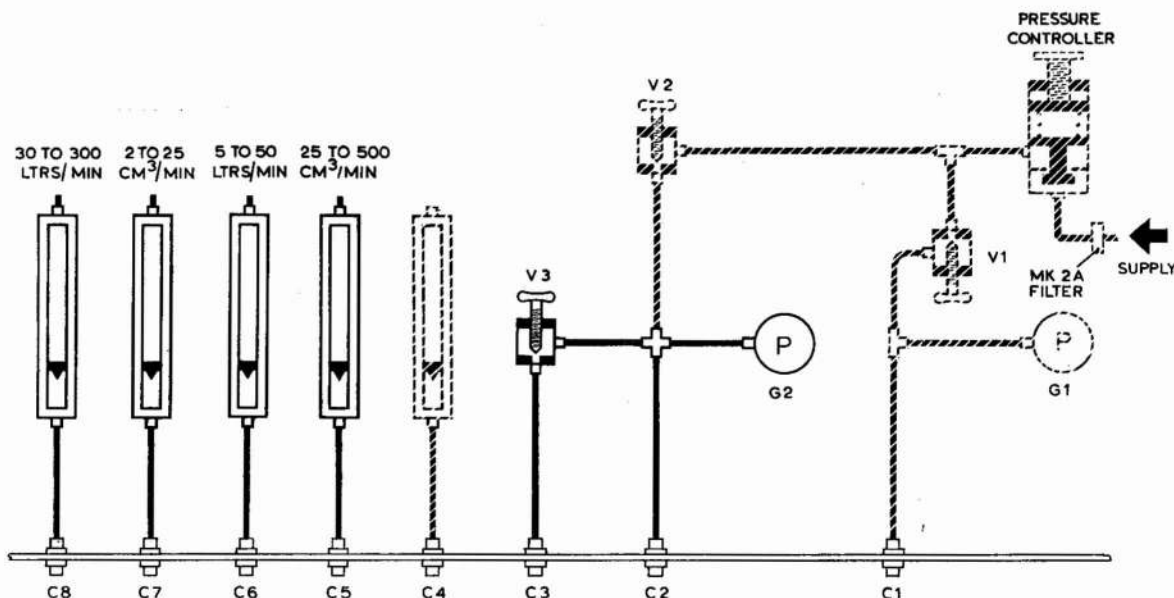

Fig. 1. Schematic diagram of test rig
(1) Test rig (fig. 1). The test rig shown in fig. 1 is one which will eventually be introduced for testing liquid oxygen systems. Pending its introduction, the components of the rig essential for the tests detailed in this appendix should be connected as shown by the full lines. The test equipment is as follows:—
- (2) 28V d.c. electrical supply
- (3) Liquid oxygen dispenser or suitable refilling equipment
- (4) Tester, insulation resistance, Type C (Ref. No. 5G/152)
- (5) Suitable capacitance bridge or variable air capacitor (Ref. No. 6C/3234)
- (6) Special adaptor (Part No. 1508K000) for variable air capacitor.
- (7) Supply hose assembly (Part No. OP.7390)
- (8) Vent hose assembly (Part No. OP.7380)
- (9) Vent adaptor (Part No. TE.11230)
- (10) Scales capable of reading to 50 lb.
- (11) Coil ($\frac{5}{16}$ in. o.d. $\times$ 20 s.w.g. light alloy pipe 80 ft long).
- (2) Connect the supply hose assembly to the outlet plug on the package, connect the opposite end of the supply hose to the coil (para. 2, sub-para. (11)) and connect the coil to the test rig connection C2 (fig. 1).
- (3) Interconnect the test rig connections C3 and C6.
- (4) Ensure that all test rig valves are closed.
- (5) Connect the filling hose of the dispenser to the filler head and then check the following:—